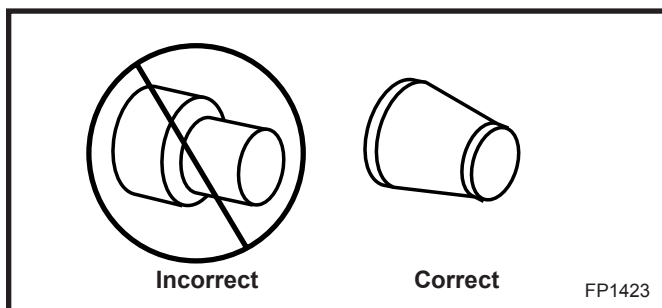

Fig. 6 Vent pipe transitions should be gradually tapered.
5. Vent pipe transitions, where necessary, should be gradually tapered. (Fig. 6)